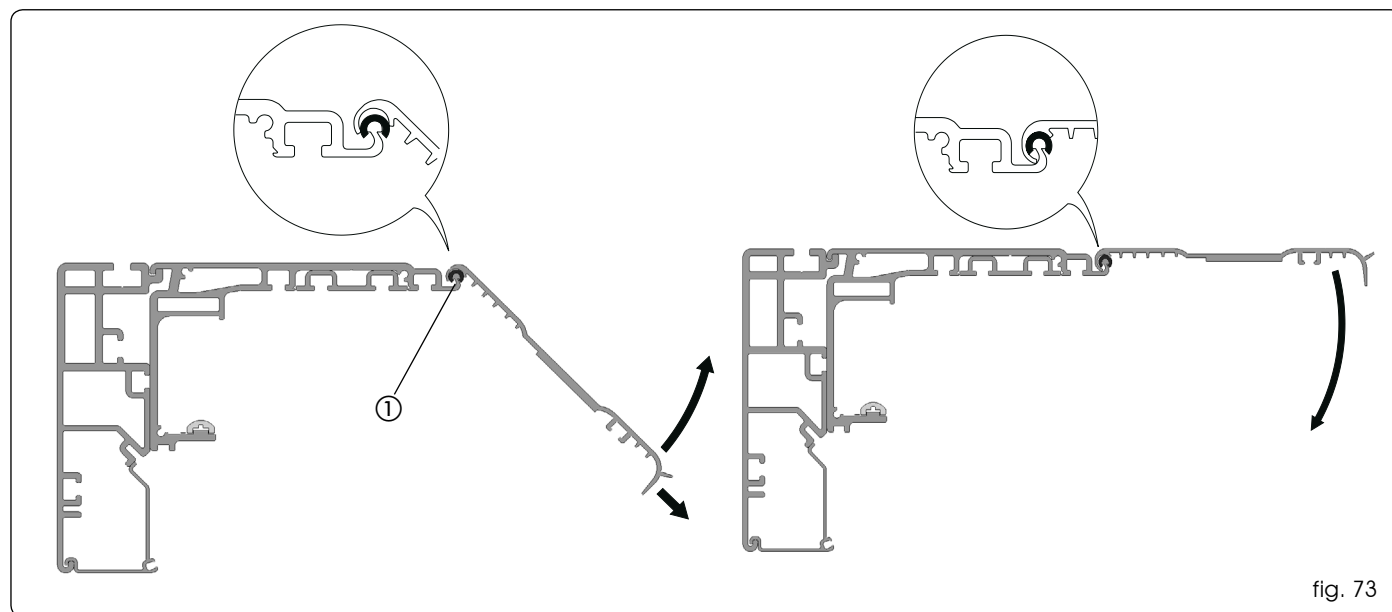

fig. 73
Fit the anti-vibration spacers (fig. 73 ref. ①).
Position the closure housing on the spacers; pull it as shown in fig. 73 and turn it upward to obtain correct attachment.